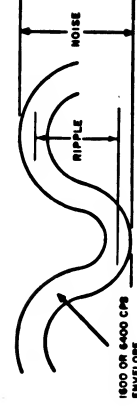

Figure 1. Typical Ripple and Noise Pattern
- Measure peak-to-peak ripple voltage on oscilloscope, as shown in figure 1, and record.
13. Measure peak-to-peak noise on oscilloscope, as shown in figure 1, and record.
- Measure peak-to-peak noise on oscilloscope, as shown on figure 1, and record.